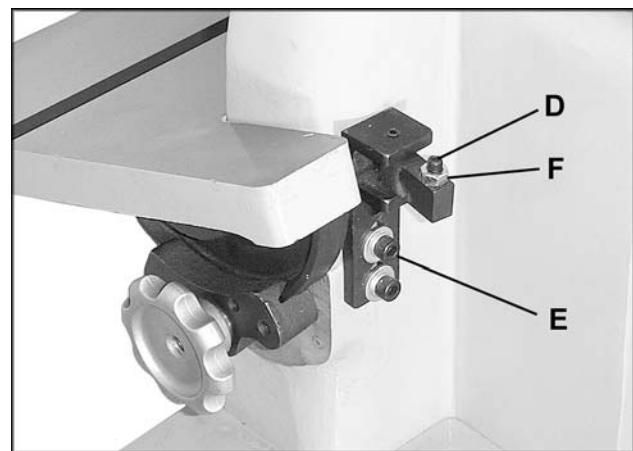

FIGURE 9
A zero-degree stop (D) is located behind the disc. See Figure 9. The block should be set for quick placement of the table to the 0 position (90 degree table). The block must be swung out of position for the table to be tilted downward. If major adjustment of the zero-degree stop is necessary, loosen the socket head cap screws (E) to raise or lower the bracket. For fine adjustment, loosen the hex nut (F) and turn the screw in or out as needed. Re-tighten hex nut (F).